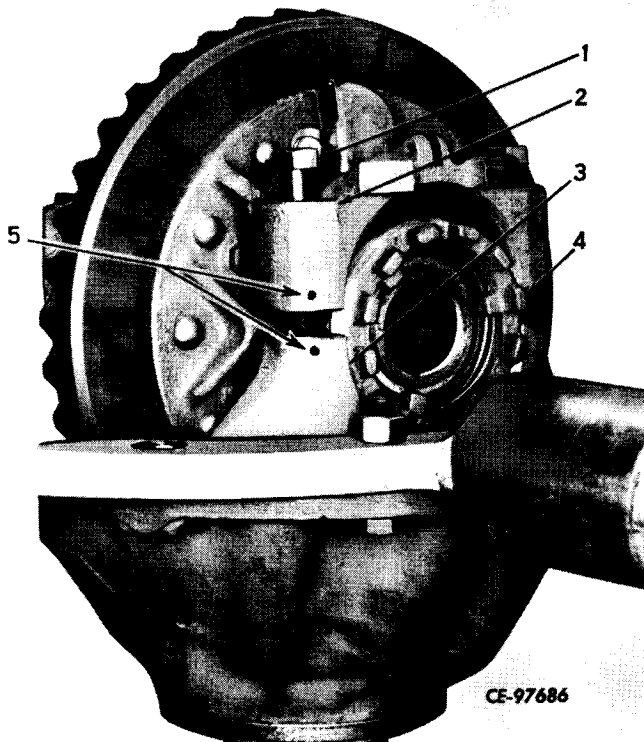

Figure 6-25
Bearing caps (2, Fig. 6-25) and carrier legs (3) are marked at factory to assure correct assembly. If original identification marks are not clear, mark one bearing cap and carrier leg with a center punch or chisel to identify for correct assembly (5).